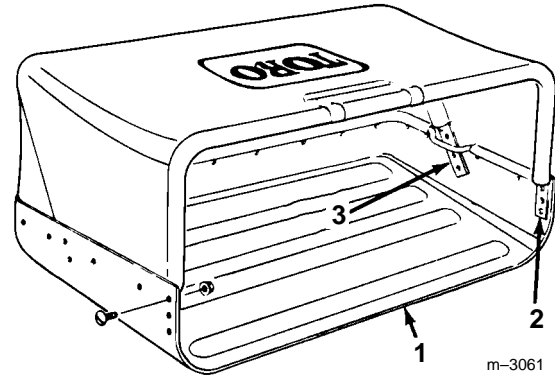

Figure 9
1. Position the rear bag support tube ends between the bag rods and the bag tray (Fig. 9).